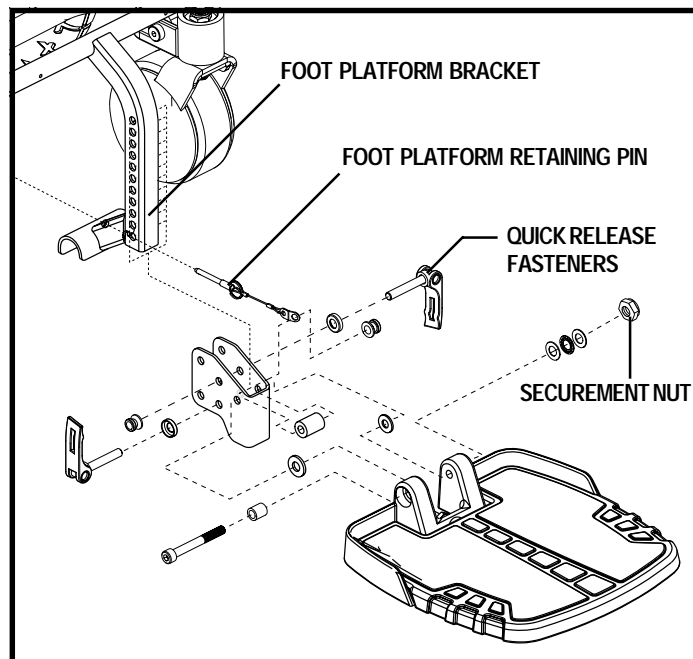
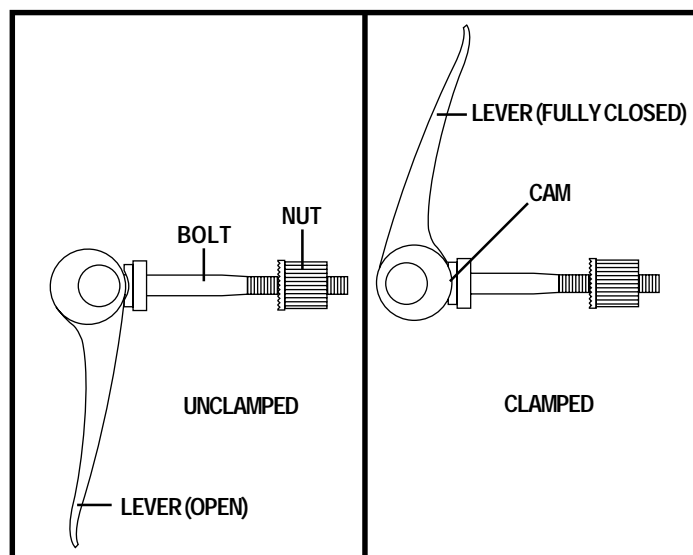

Figure 17. Foot Platform Adjustment
Figure 18. Quick Release Fastener Operation
1. Remove the quick release fasteners from the foot platform bracket. See figure 17.
**Quick Release Fasteners:** The foot platform is attached to the power base with two quick release fasteners. See figure 17. Each quick release fastener consists of a bolt, a lever, and a nut. See figure 18. The lever has a cam on the end that allows it to clamp into place. The quick release fastener has two states: clamped and unclamped. When the lever is open, the quick release fastener is unclamped. When the lever is closed, the quick release fastener is clamped.